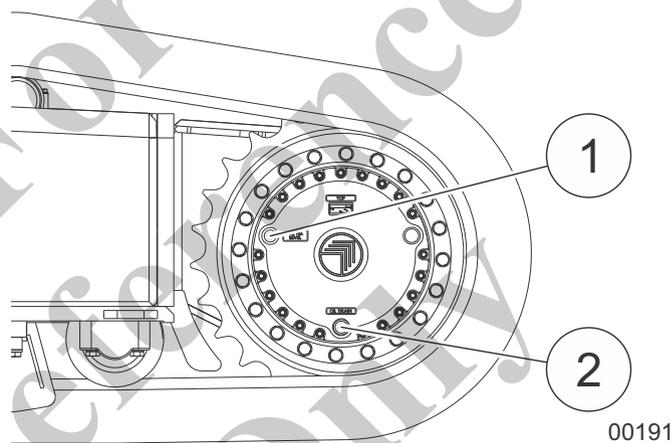

Fig. 217 Lubricating points (1) and (2) of the travel drive
1	Park the machine on an even and hard surface so the lubricating points (1) in Fig. 217 and (2) in Fig. 217 are as shown in the figure.